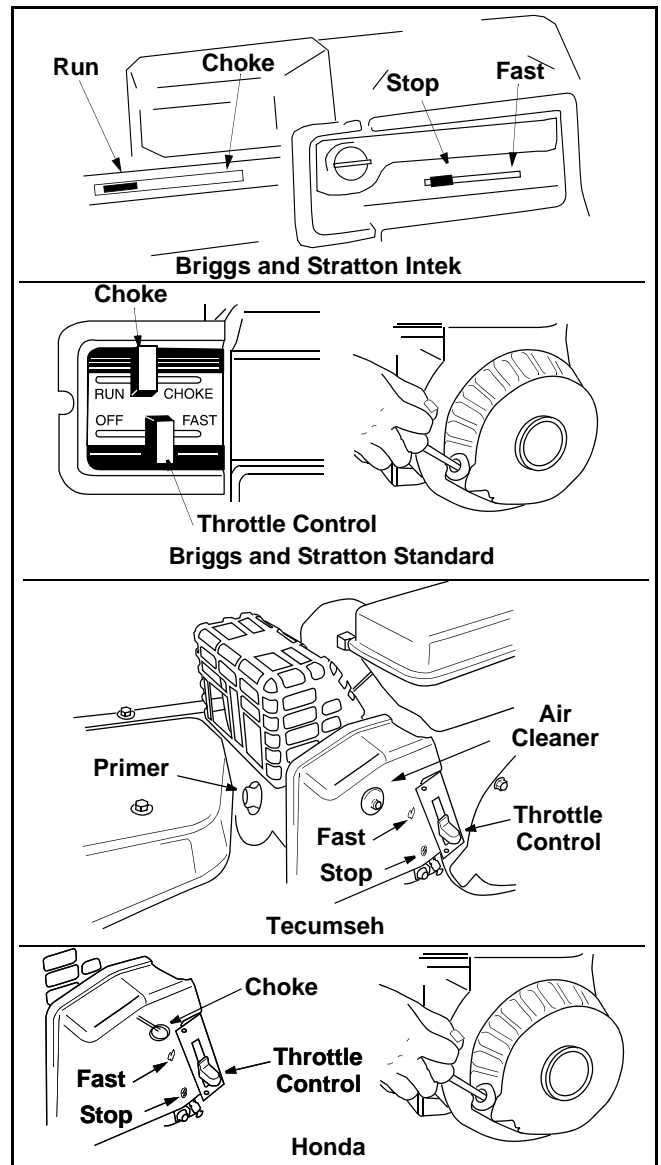

Figure 7
The throttle control lever is located on the engine. It controls the engine speed and stops the engine. See Figure 7.
The choke lever is located above the throttle control. It is used to enrich the fuel mixture when starting a cold engine. See Figure 7.
The primer button is located behind the air cleaner. It is used to enrich the fuel mixture in the carburetor when starting a cold engine. See Figure 7.
- Place the throttle control lever in FAST position. See Figure 7.